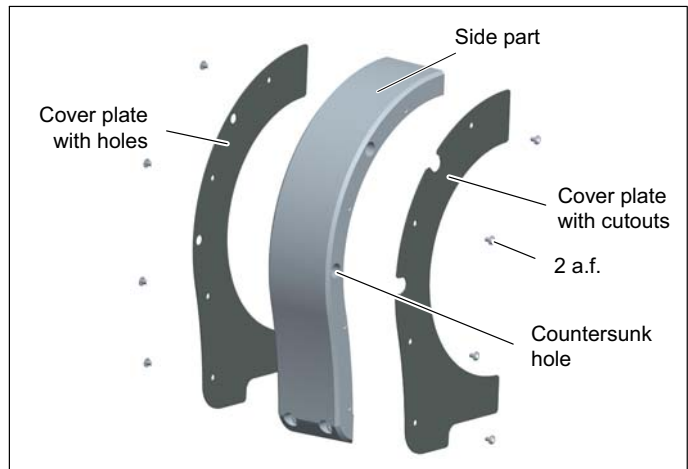

Fig. 8.7 Fit the cover plates
4. Screw the cover plate onto the side parts (screws with hexagon socket 2 a.f.; tightening torque $M_A = 1 \text{ N} \cdot \text{m}$). Note that the cover plate with cutouts must be fitted onto the side with countersunk holes! (see Fig. 8.7).